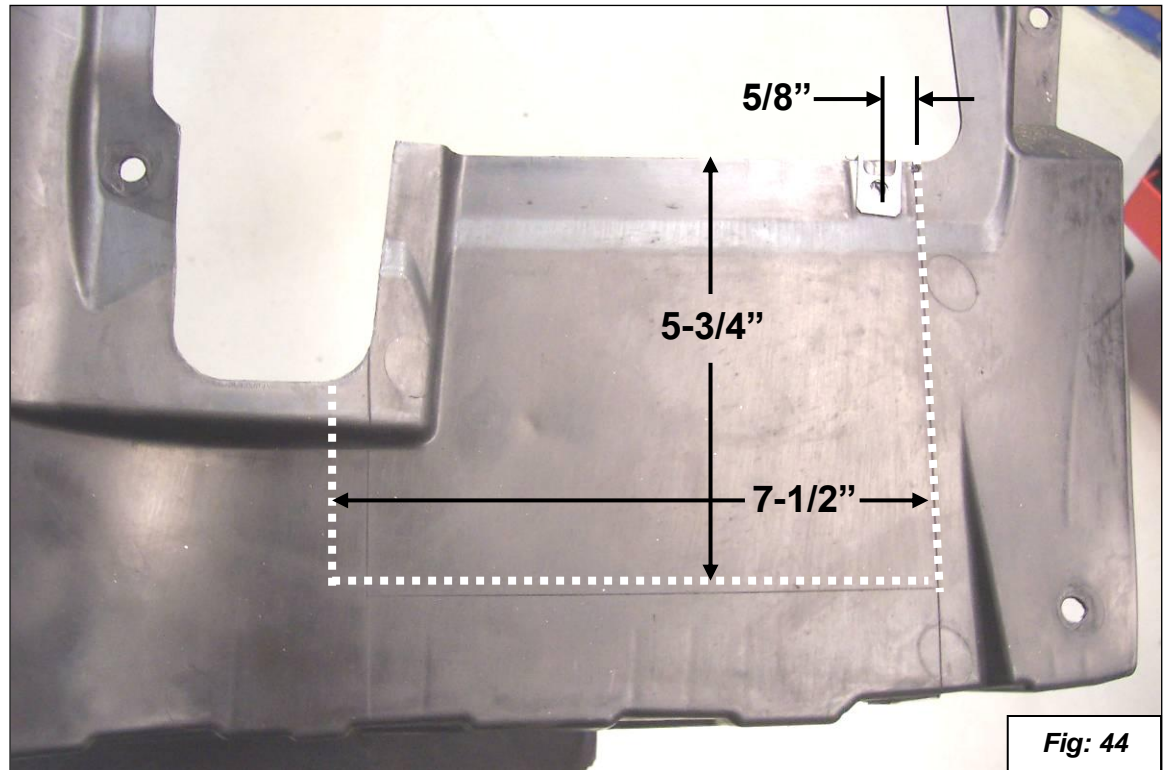

**Fig: 42**
50. Fasten the top screws (1) as shown in **figure 42** and the side screws (2) as shown in **figure 43**.